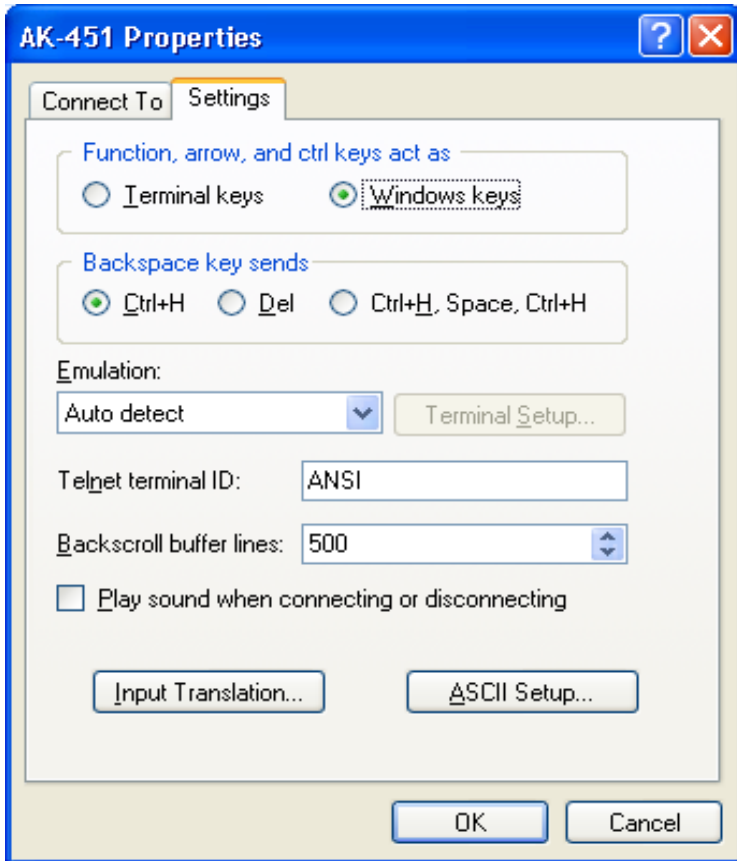

Figure 20: Verify parameter setting.
- Verify the following setting (See Figure 20.) From the Hyper Terminal window (or the equivalent RS-232 window), Click File -> Properties -> Settings tab. Click OK to go back to Hyper Terminal window.